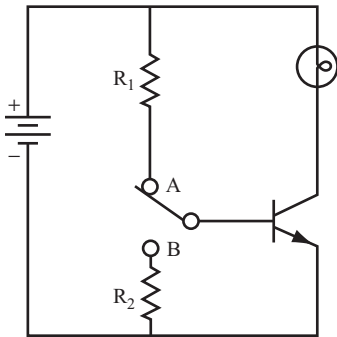

FIGURE 4.8
14 Figure 4.8 shows a circuit using both R_1 and R_2 . Note that the circuit includes a two-position switch that you can use to turn the transistor ON or OFF.
- A.** As shown in Figure 4.8, is the transistor ON or OFF? _____